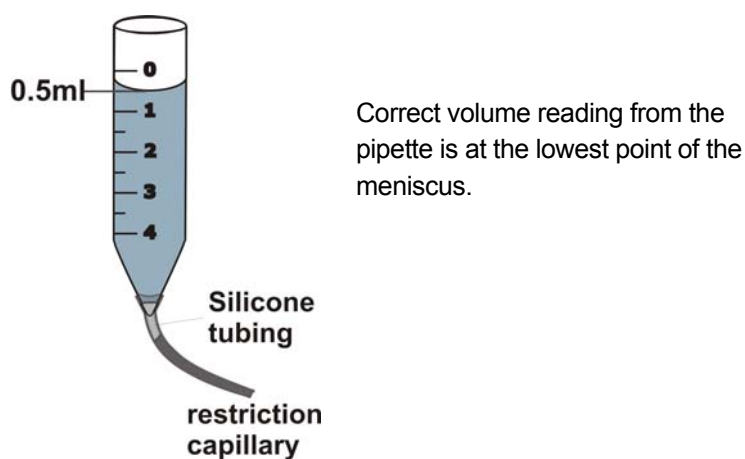

Fig. 17. Flow measurement with graduated 5 mL pipette.
2. Connect the inlet of the graduated analytical pipette to the outlet of the restriction capillary using a short piece of silicon tubing (see figure 17). Or connect the restriction capillary to a calibrated flow meter.
To perform all adjustments in this section a test set-up as described in the first paragraph of the test instruction is required (figure 17). Please refer to this section for details about this set-up.